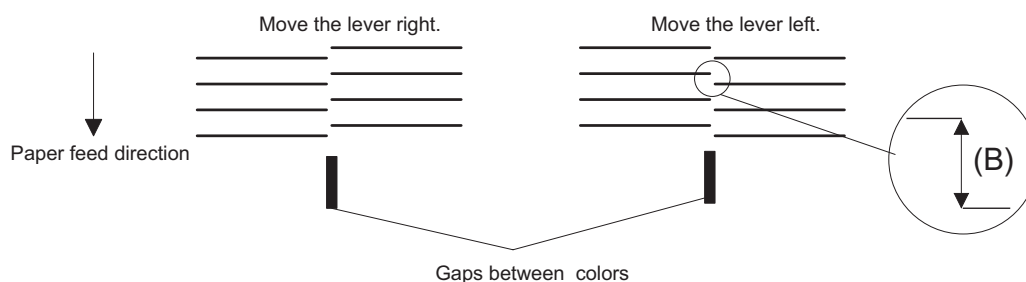

Figure 4-6. Color Head Angular Adjustment
6. Move the angle adjust lever to make the deviation (B) between 2 colors less than $4/1$ of the line width. (Refer to Figure 4-6.)